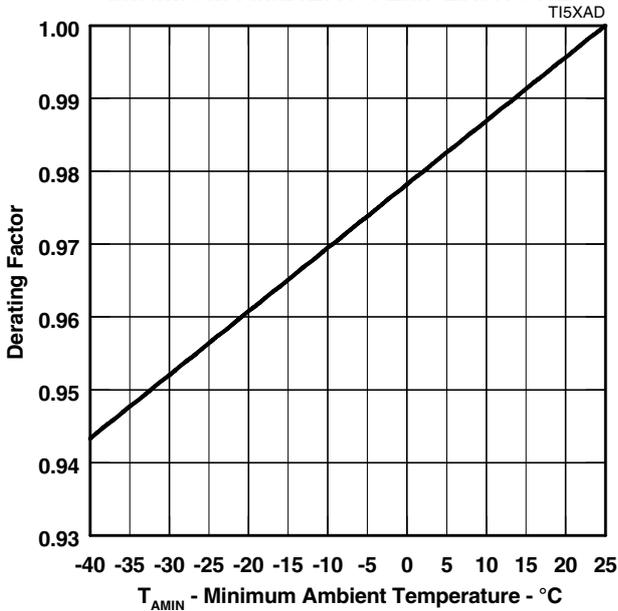

Figure 9.
- NOTES: 1. See Figure 9 for voltage values at lower temperatures.
The protector should not clip or limit the voltages that occur in normal system operation. Figure 9 allows the calculation of the protector V_{DRM} value at temperatures below 25 °C. The calculated value should not be less than the maximum normal system voltages. The TISP5150H3BJ, with a V_{DRM} of -120 V, can be used to protect ISDN feed voltages having maximum values of -99 V, -110 V and -115 V (range 3 through to range 5). These three range voltages represent 0.83 (99/120), 0.92 (110/120) and 0.96 (115/120) of the -120 V TISP5150H3BJ V_{DRM} . Figure 9 shows that the V_{DRM} will have decreased to 0.944 of its 25 °C value at -40 °C. Thus the supply feed voltages of -99 V (0.83) and -110 V (0.92) will not be clipped at temperatures down to -40 °C. The -115 V (0.96) feed supply may be clipped if the ambient temperature falls below -21 °C.